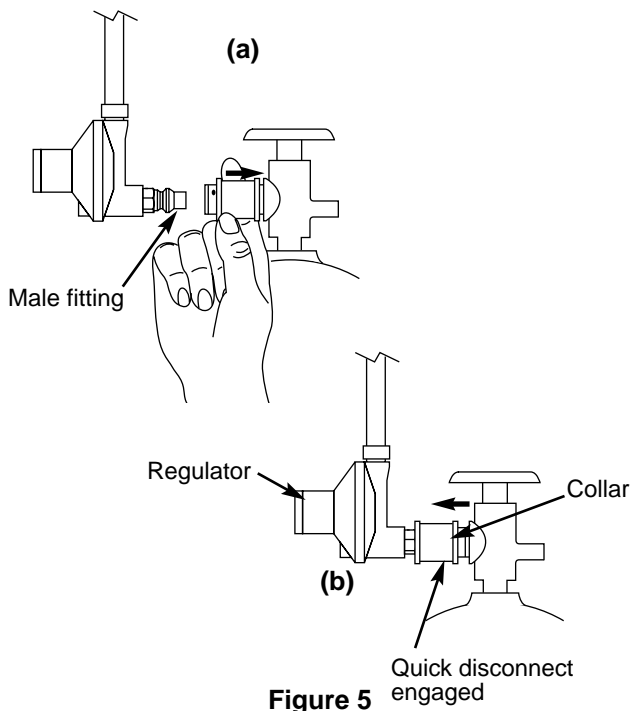

Figure 5
- c) Connect the hose to the tank. Slide back the collar of the quick disconnect on the tank valve. Figure 5 (a). Push the male fitting of the regulator into the quick disconnect, and maintain pressure. Slide the collar closed. Figure 5 (b). If it does not engage or lock, repeat procedure. Gas will not flow unless the quick disconnect is properly engaged.